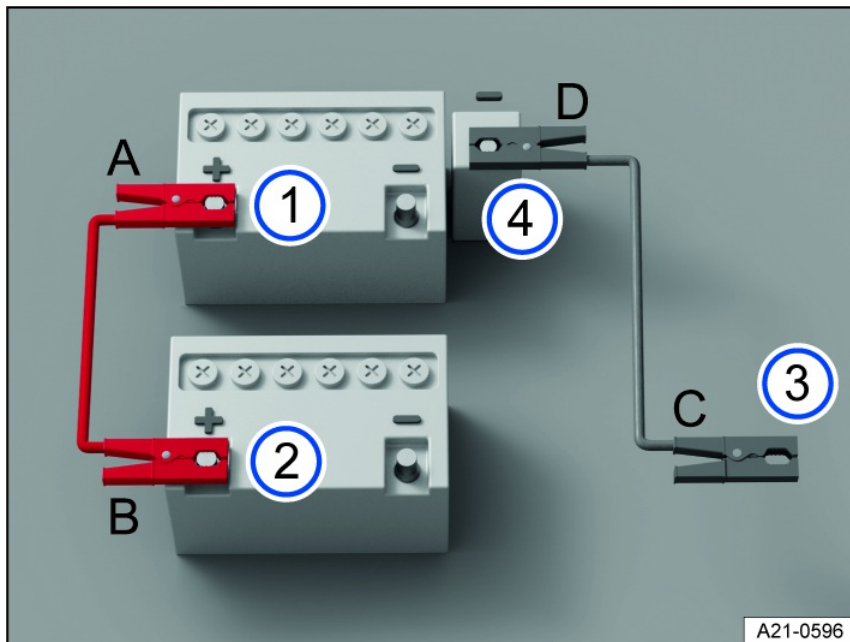

Fig. 147 Diagram for connecting the jumper cables.
Only connect the jumper cables in the sequence A – B – C – D *fig. 147*.
3. Connect one end of the red jumper cable to the positive battery terminal (+) of the 12 V vehicle battery with the discharged 12 V vehicle battery *fig. 147* ① = .
4. Connect the other end of the red jumper cable to the positive battery terminal (+) on the vehicle providing current *fig. 147* ②.
5. Connect one end of the black jumper cable preferably to the negative terminal (–) jump-start point on the vehicle with the 12 V vehicle battery providing current *fig. 147* ③.
- Or:** If there is no negative terminal (–) jump-start point, connect the end of the black jumper cable to a large metal part that is bolted securely to the engine block, or the engine block itself, on the vehicle with the 12 V vehicle battery providing current *fig. 147* ③.
6. Connect the other end of the black jumper cable to the negative terminal (–) jump-start point on the vehicle with the discharged 12 V vehicle battery *fig. 147* ⇒ .
3. Once the vehicle has been jump-started, always disconnect the jumper cables in the order D – C – B – A *fig. 147*.